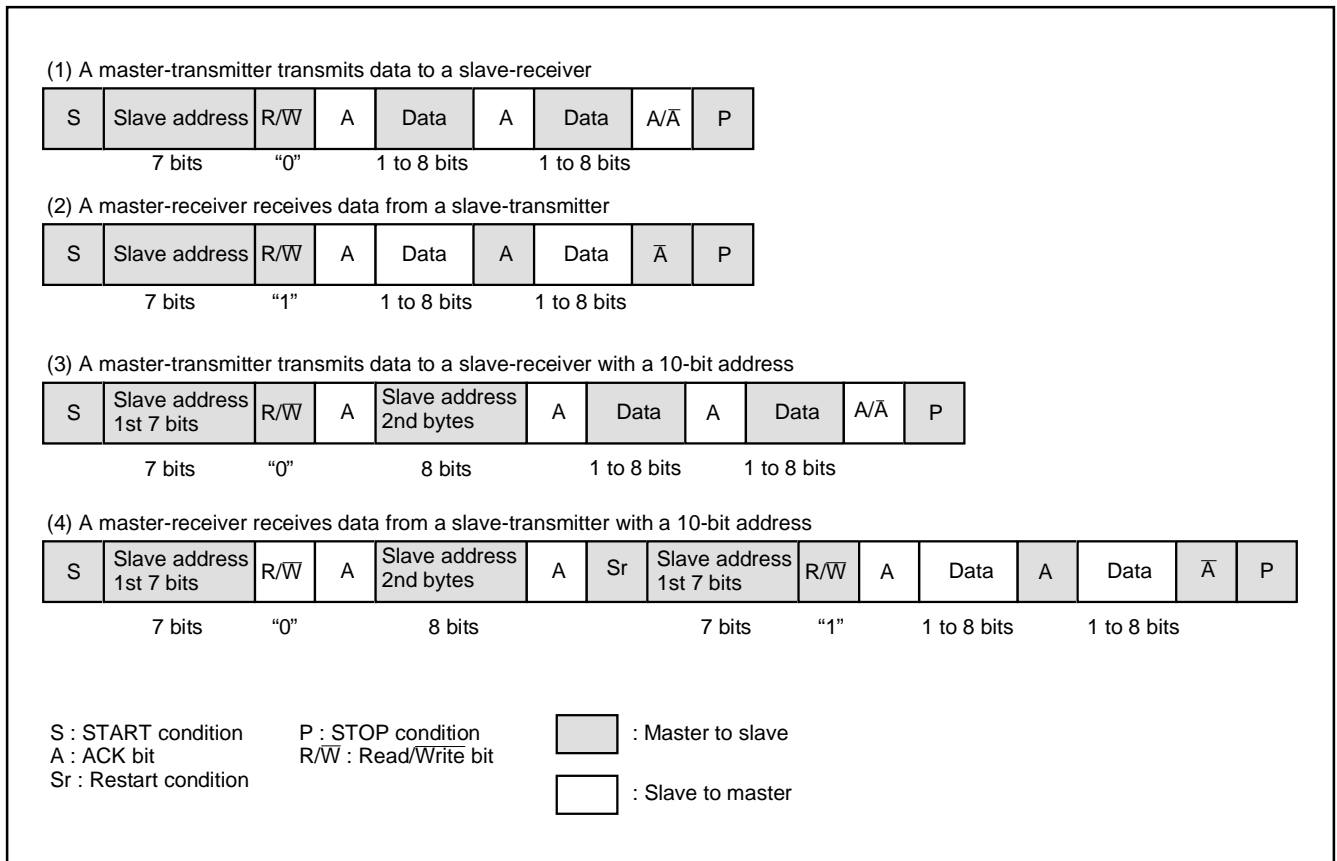

Fig. 77 Address data communication format
① 7-bit addressing format
To adapt the 7-bit addressing format, set the 10BIT SAD bit of the I²C control register (S1D: address 0014₁₆) to "0". The first 7-bit address data transmitted from the master is compared with the high-order 7-bit slave address stored in the I²C slave address register. At the time of this comparison, address comparison of the RWB bit of the I²C slave address register is not performed. For the data transmission format when the 7-bit addressing format is selected, refer to Figure 77, (1) and (2).
② 10-bit addressing format
parison, an address comparison between the RWB bit of the I²C slave address register and the R/\bar{W} bit which is the last bit of the address data transmitted from the master is made. In the 10-bit addressing mode, the RWB bit which is the last bit of the address data not only specifies the direction of communication for control data, but also is processed as an address data bit. When the first-byte address data agree with the slave address, the AAS bit of the I²C status register (S1: address 0013₁₆) is set to "1." After the second-byte address data is stored into the I²C data shift register (S0: address 0011₁₆), perform an address comparison between the second-byte data and the slave address by software. When the address data of the 2 bytes agree with the slave address, set the RWB bit of the I²C slave address register to "1" by software. This processing can make the 7-bit slave address and R/\bar{W} data agree, which are received after a RESTART condition is detected, with the value of the I²C slave address register. For the data transmission format when the 10-bit addressing format is selected, refer to Figure 77, (3) and (4).